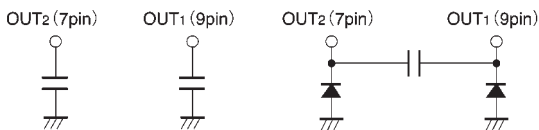

Fig.4
(15) To eliminate motor noise, connect a capacitor between OUT₁ (pin 9) and GND and between OUT₂ (pin 7) and GND. Alternatively, connect a capacitor between OUT₁ and OUT₂, and also a diode between OUT₁ and GND and between OUT₂ and GND (see Fig. 4).